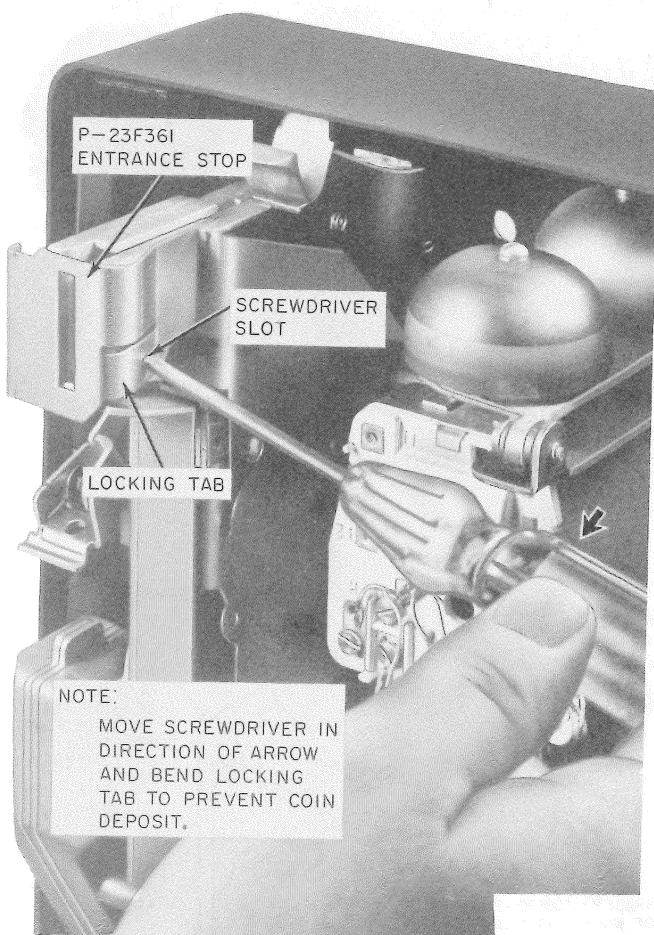

Fig. 55—Operation of Entrance Stop
4.32 To install P-21F299 fingerwheel, place fingerwheel on dial with operator hole over the 9 position and rotate fingerwheel counterclockwise until spring clamp snaps in place.**Fingerwheel (8U or 8W Dial)****4.33 To remove 840151872 fingerwheel refer to 2.38.****4.34 To install 840151872 fingerwheel refer to 2.40.****P-23F361 Entrance Stop****4.35 The P-23F361 entrance stop (Fig. 55) is installed on the chute to minimize coin losses due to chute stuffing. When the coin release lever or knob is operated or a stuffing condition exists the entrance stop moves sideways and closes the coin slot.****4.36 A prefabricated locking tab arrangement can be bent with a screwdriver to hold the upper plate assembly off normal. This will prevent customer coin deposits in newly installed coin telephone sets awaiting initial service connection, or those that are out of service which require further maintenance or repair.****4.37 To replace entrance stop:**